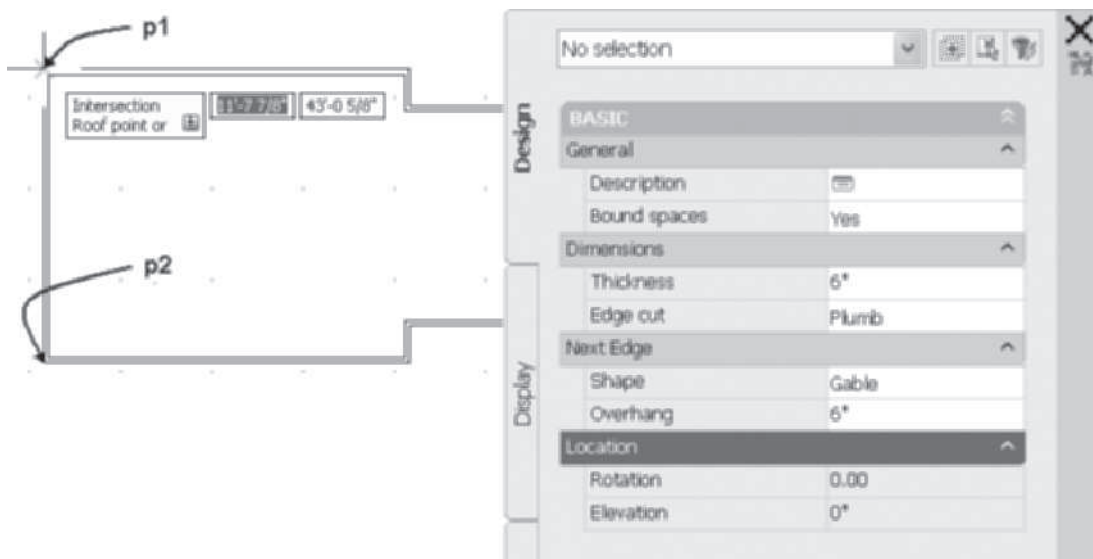

FIGURE 7.10 Editing the Properties palette for roof edge 1
4. Select the **Roof** command from the **Design** palette. Edit the **Properties** palette as follows: Basic-Dimensions: Thickness = **6" [150]**, Edge cut = **Plumb**, Next Edge: Shape = **Gable**, Overhang = **6" [150]**, as shown in Figure 7.10. Respond to the following workspace prompts by selecting roof points as specified below.
Roof point or: (Select the wall using the intersection of the outer lines of the corner at p1 as shown in Figure 7.10.)
Roof point or: (Select the wall using the intersection of the outer lines of the corner at p2 as shown in Figure 7.10.)